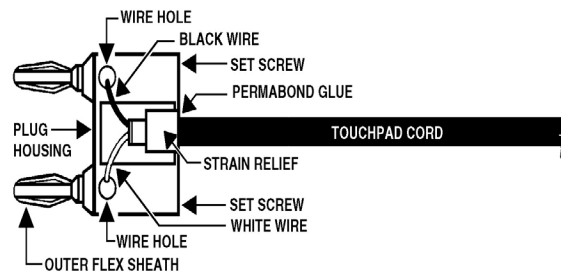

Figure 16 – Banana Plug
- 1) Clip off the old plug just above the plug housing (see Figure 16).